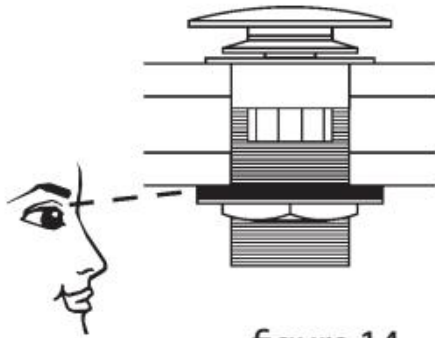

figure 14
19. Fill the tub with water to the overflow and then drain the tub while inspecting the waste connections below the floor for leaks. Access from below will be necessary for this step (figure 14).